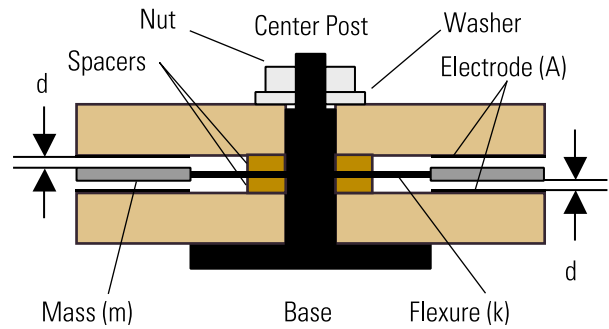
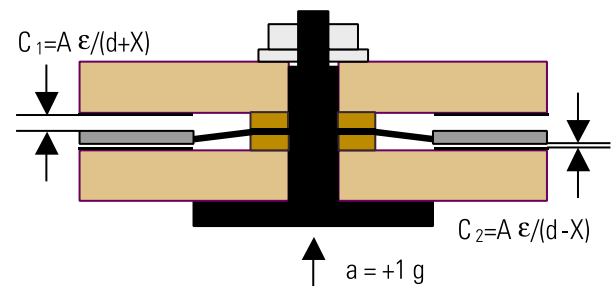
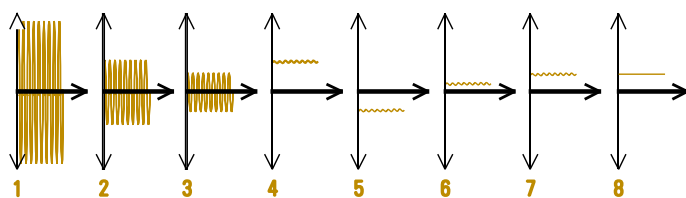

Figure 1: Sensing Element in "0 g" Condition
Figure 2: Sensing Element in "+1g" Condition
Figure 4: Response from Circuit due to applied +1g Static Acceleration (x-axis = time and y-axis = voltage)
In Series 3700 Capacitive Accelerometers, the sensing element mechanism consists of a "washer-shaped," seismic mass (m) suspended by a proprietary flexure with stiffness (k). This assembly is sandwiched between two circular plates with a plated electrode area (A), whose distance (d) is closely controlled with precision, chemically-etched spacers. The resulting air-gap between each electrode and the seismic mass forms a "mechanically variable capacitor". A cross-sectional drawing of this sensing element under a "0 g" condition is depicted in Figure 1. Figure 2 depicts a "+1 g" condition as may be experienced by the sensor as it rests in the Earth's Gravitational Field.
When the element is accelerated (a) as shown in Figure 2, an inertial force (F) is created on the mass (m) in accordance with Newton's Second Law of Motion:
response from the +1 g acceleration shown in Figure 2 is depicted by the time traces shown in Figure 4 and an explanation follows.